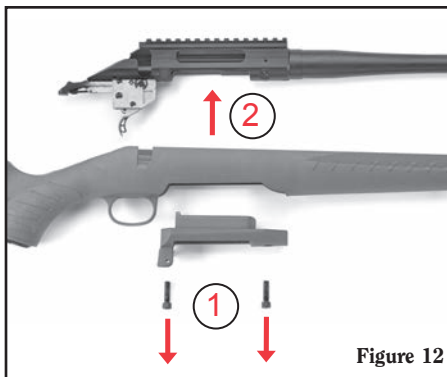

Figure 12
- e. Lift the barreled-action out of the stock. (See Figure 12.)